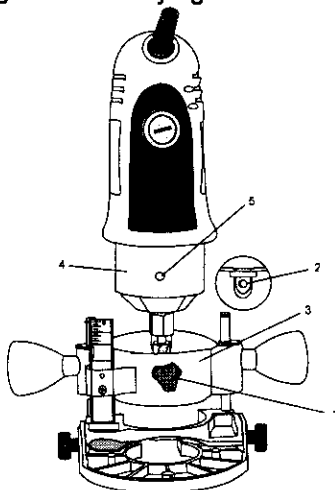

Fig. 15
2. Remove accessory locking knob (1) from the base of the cutting tool motor housing (see Fig. 15). Depress the motor shaft locking button (2) on the back of the motor housing (see inset).